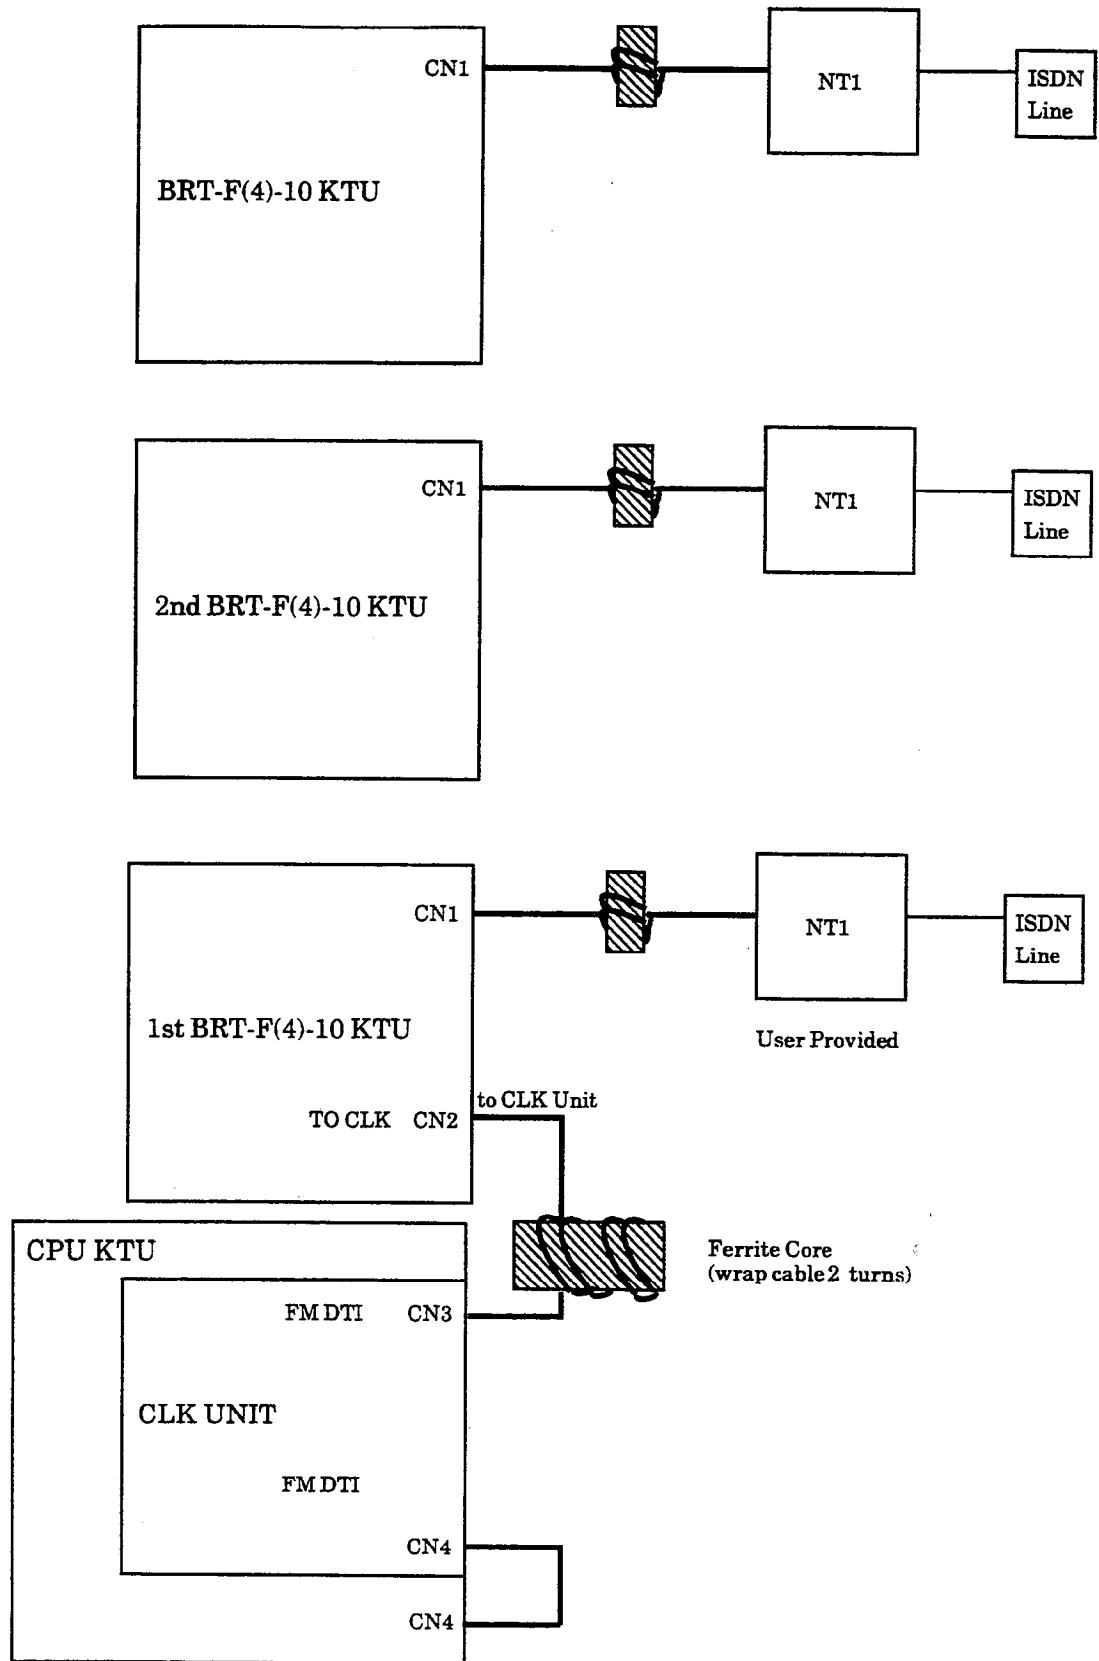

Figure 3-86 Connecting the Cable Between the BRT-F(4)-10 KTU and the CLK-F-21 Unit
Connect BRT-F(4)-10 KTU CN2 to CLK-F-21 Unit CN3 using the cable provided with the CLK-F-21 unit. Refer to Figure 3-86 - Connecting the Cable Between the BRT-F(4)-10 KTU and the CLK-F-21 Unit.
2. Connect cable between NT1 and BRT KTU. as shown in Figure 3-86 BRT-F(4)-10 KTU Interconnect.